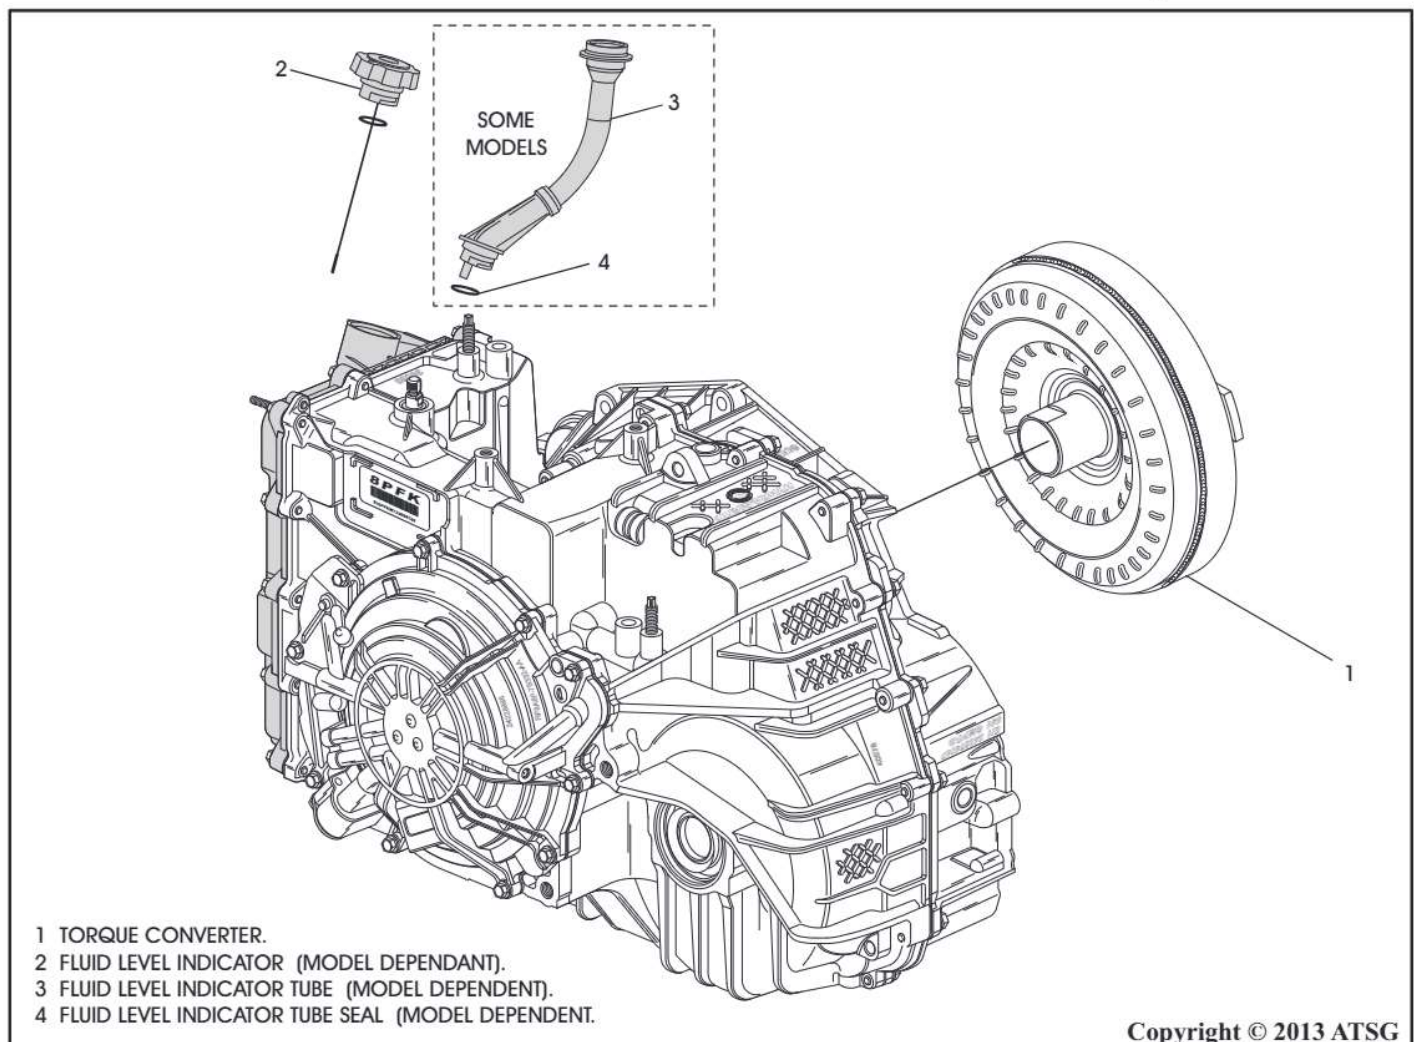

Figure 43
3. Remove the torque converter assembly from the transmission, as shown in Figure 43.
5. Remove the dip-stick, as shown in Figure 43.